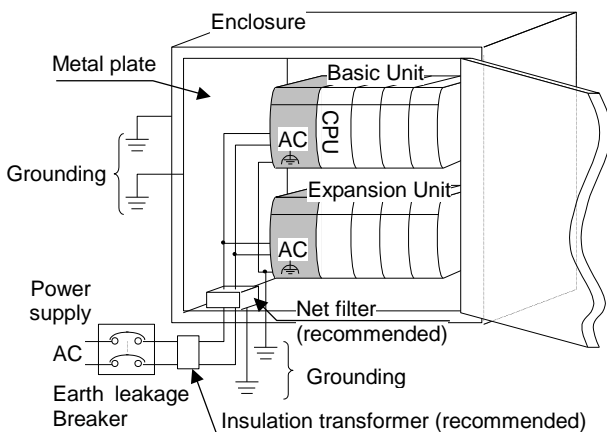

Figure 1 Power wiring example
- The basic and expansion unit should be connected to common power source and powered up together as shown in Figure 1